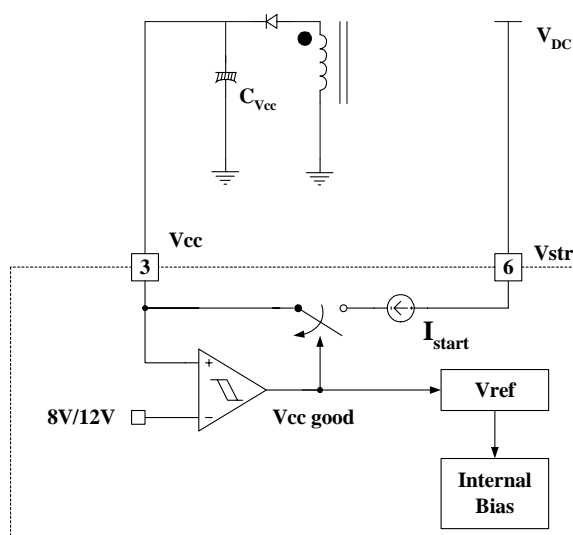

Figure 4. Internal startup circuit
1. Startup : In previous generations of Fairchild Power Switches (FPS™) the Vcc pin had an external start-up resistor to the DC input voltage line. In this generation the startup resistor is replaced by an internal high voltage current source. At startup, an internal high voltage current source supplies the internal bias and charges the external capacitor (C_{VCC}) that is connected to the Vcc pin as illustrated in figure 4. When Vcc reaches 12V, the FPS™ begins switching and the internal high voltage current source is disabled. Then, the FPS™ continues its normal switching operation and the power is supplied from the auxiliary transformer winding unless Vcc goes below the stop voltage of 8V.